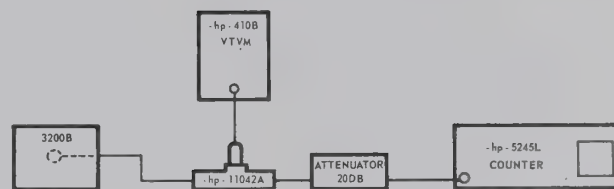

Fig. 5-7. RF Calibration Setup
b. Connect the equipment as shown in Fig. 5-7.
- (1) Move the turret away from the RF tube shelf to increase the inductance in the capacitor contacts. This effectively reduces stray capacitance between the turret and the tube shelf.
- (2) Move the turret toward the RF tube shelf to decrease the inductance in the capacitor contacts. This increases the stray capacitance between the turret and the tube shelf.